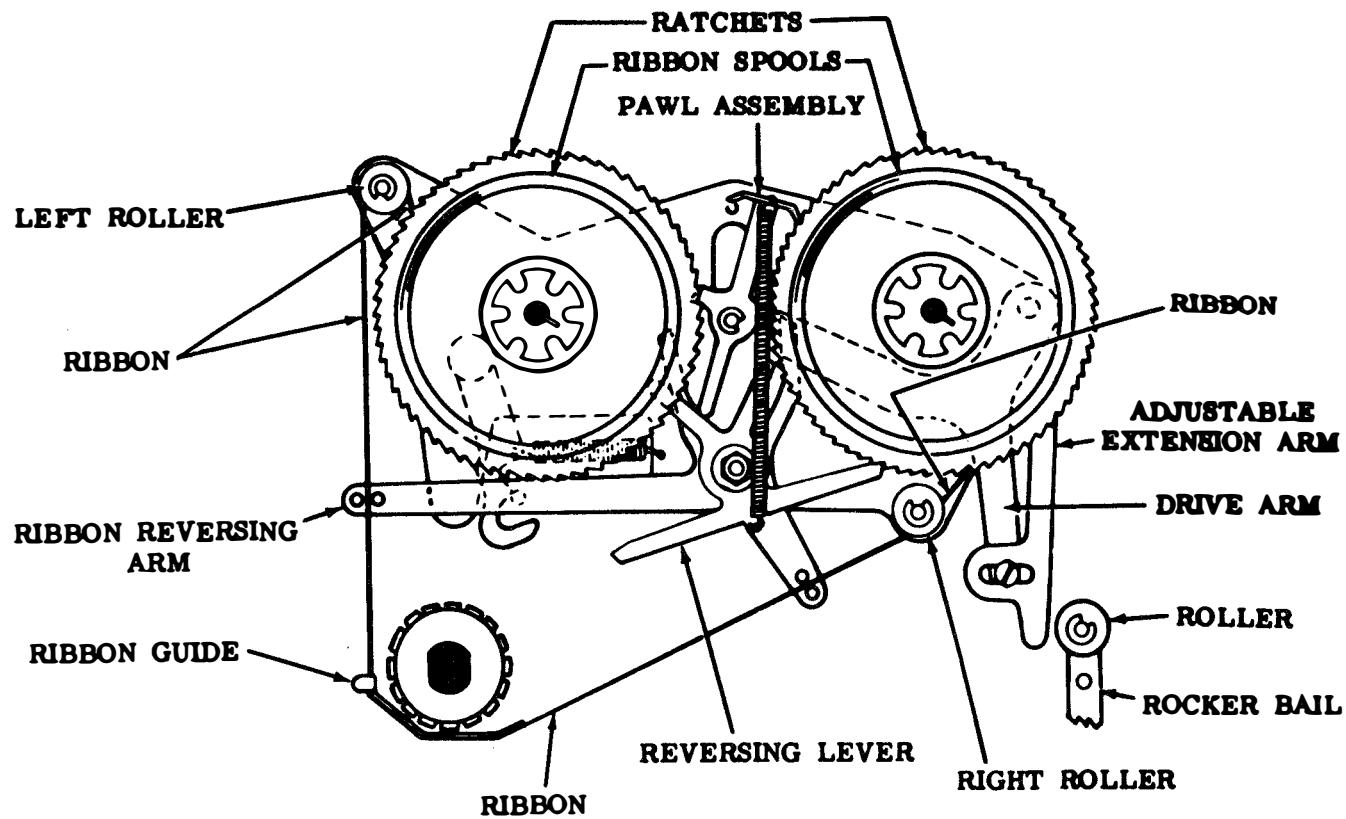

Figure 8-9. Path of Ribbon
- (1) Refer to figure 8-9.
- (2) Open the cabinet or cover access door.
- (3) The ribbon mounts in a vertical position at the top of the reperforator, held in place on each of two ribbon spool shafts by a toggle lever. Engage the hook on the end of the ribbon in the hub of an empty spool (retain one spool if replacing a used ribbon). Wind a few turns of the ribbon onto the empty spool to make sure that the reversing eyelet has been wound upon the spool. The left spool winds clockwise, the right counterclockwise.